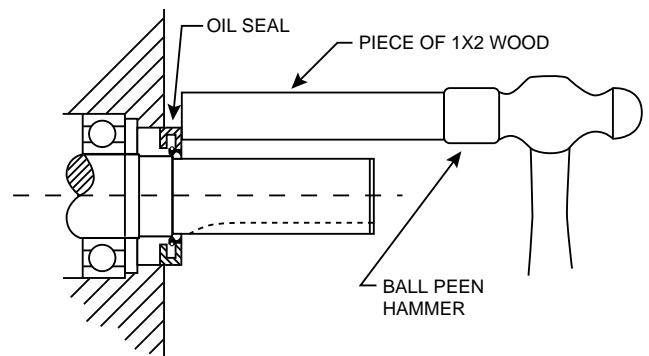

Fig. 7
5. Wrap .005" (.127 mm) plastic shim stock around the shaft to cover up the keyway and any shoulders. Wipe oil or grease on the seal lip to facilitate assembly. Slip the seal on the shaft up to the bearing cap with the lip and spring facing in toward the reducer. Using the end of a piece of wood about 1 x 2", drive the seal in tapping first on one side then the other. (See Fig. 7) The seal should be flush with bearing cap outer face and square with the shaft. Remove the shim stock. If steel or brass shim stock is used, make sure all burrs on the edge are removed to avoid cutting the seal. For maximum protection, lay a strip of scotch tape along the exposed edge.